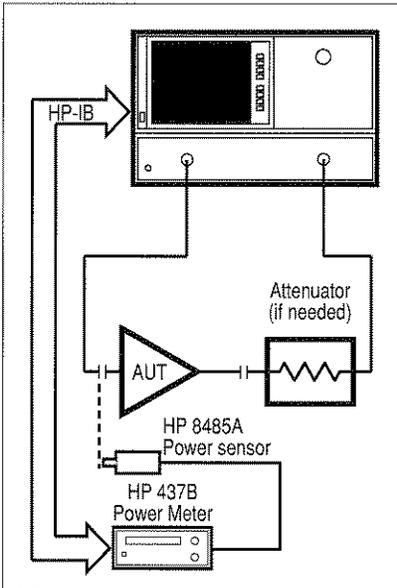

Figure 10.
1. Configure the system as shown in Figure 10. Connect the HP 437B power meter to the HP-IB port of the HP 8720C. Zero and calibrate the power meter.